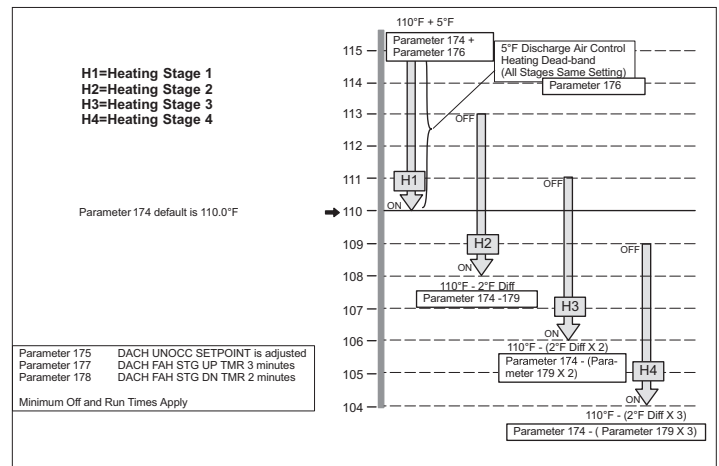

Figure 46. Discharge Air Control Heating Stages - Default Values Shown
- Refer to “Figure 46. Discharge Air Control Heating Stages - Default Values Shown” for Discharge Air Control Heating stages.